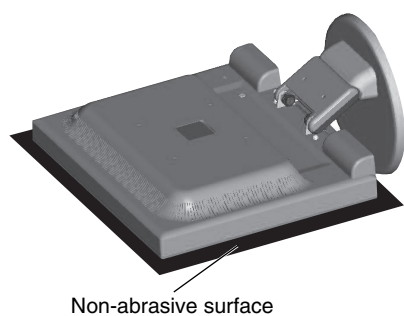

Figure R.1
2. Place monitor face down on a non-abrasive surface (**Figure R.1**).